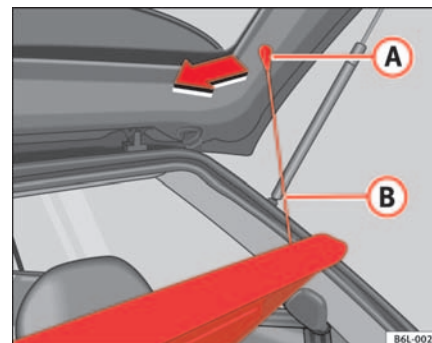

Fig. 89 Luggage compartment cover
- Disengage the loops ⇒ fig. 89 **B** from the retaining pins **A**.